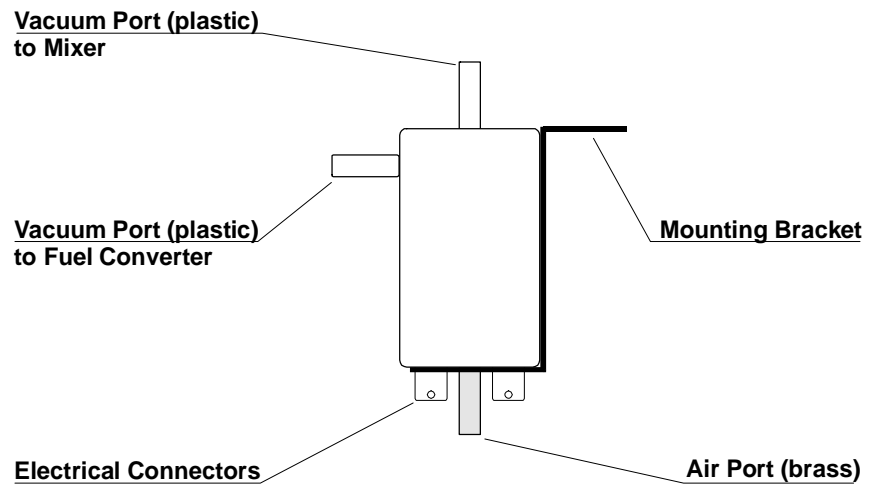

Figure 2. Solenoid Valve Ports
Install the foam filter on the air port of the solenoid valve (it is the brass port of the solenoid located in the proximity to the electrical connections, as shown in Figure 2). Making sure that the port opening is not blocked, place a drop of adhesive on the brass port and place the foam filter over the port.
This step involves (1) the installation of the vacuum elbow into the fuel regulator, (2) connecting the elbow with the solenoid valve, (3) installing the vacuum fitting in the mixer and (4) connecting the solenoid valve with the mixer vacuum. Solenoid valve ports are referenced in Figure 2.
- (1) Locate the atmospheric vent on the regulator. It may be necessary to modify the vent opening to accept the 1/8 N.P.T. black elbow fitting. Position the vacuum elbow so that the orifice is aimed downward to allow moisture which may accumulate in the line to drain. Note: Do not over-tighten (to avoid breaking the plastic thread).
- (2) Cut sufficient length of the flexible vacuum hose and connect the vacuum elbow with the plastic vacuum port on the side of the solenoid valve (see Figure 2).
- (3) Identify a vacuum port in the mixer and install the vacuum fitting.
Cut sufficient length of the flexible vacuum hose and connect the vacuum fitting in the mixer with the remaining plastic vacuum port of the solenoid valve (see Figure 2).